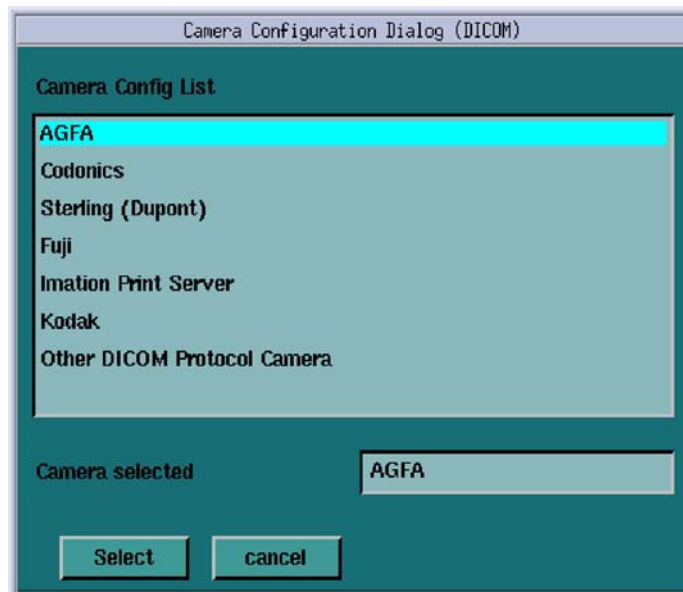

Figure 8-14 Camera Model Dialog (DICOM)
- a.) A list of camera models appears (See Figure 8-14). Select the appropriate model from the list and click SELECT. Clicking SELECT presets all the parameters to that models except the Network parameters.